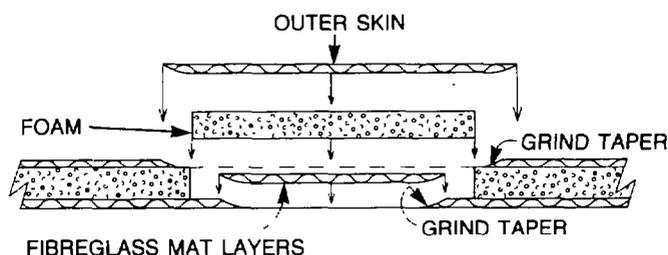

Figure 12 — Structural Damage to Both Fibreglass Skins
- c. Inspect the inner fibreglass skin for damage, if damage has occurred, it will be necessary to enlarge the hole in the outer skin to enable the inner skin to be ground (refer to Fig. 12).